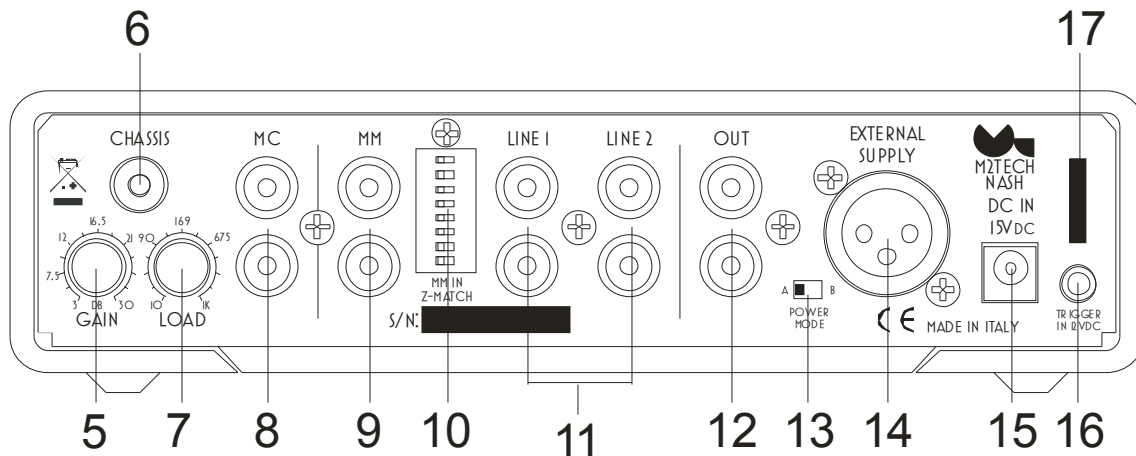

Figure 2
Connect the turntable, as well as other sources, to the dedicated inputs (Fig. 2, 8, 9 and 11). Please note you can connect two turntables at the same time: one fitted with an MC or other low-level cartridge, another fitted with MM or other high-level cartridge. Optionally, a second low-level cartridge can be connected to the MM input by means of an external step-up transformer or MC stage. Alternatively, if a reduced output level can be accepted and a high load resistance is not problematic for the frequency response, an MC cartridge can be directly connected to the MM input.
Connect the NASH output (Fig. 2, 12) to your preamplifier or integrated amplifier input.
If the trigger feature is to be used, connect a mono cable with 3.5mm jack to the NASH trigger input (Fig. 2, 16).
Connect the stock wall adaptor to the NASH power input (Fig. 2, 15) and to a wall outlet.
Set the power mode switch (Fig. 2, 13) according to the way the NASH should behave when power is applied.
When the MC Input is used, the gain chain of the NASH is made of three stages: the MC preamp, the MM first stage and the MM second stage. The MC preamp gain is set by the rear panel gain pot (Fig.2, 6). This gain adds to the MM stages total gain, which can be set to one of three value: 55dB, 60dB and 65dB.
The NASH may behave in different ways when power is applied to its power sockets (Fig.2, 14 and 15), according to user needs. The behaviour depends on the power mode switch (Fig.2, 13) and this setting.
3. Trigger in: when power is applied the NASH enters standby. The user may activate the NASH by pushing the front panel button (Fig.1, 1), sending an “on” command by the IR remote control or sending an “on” command by the smartphone app. The NASH will also activate when the trigger input (Fig.2, 16) is driven high (5V_{DC} to 15V_{DC}).